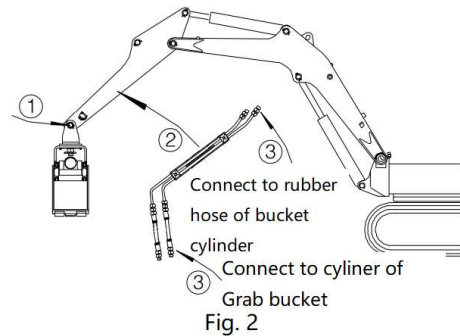

Fig. 2
- 2) Install the bucket directly on the bucket bar (as shown by arrow ① in Fig. 2).
- 3) The bucket pipeline assembly will be installed in the bucket body connection seat (as shown in Figure 2 arrow ②).
- 4) Then the connect the original bucket cylinder piston oil inlet to the piston grab cylinder oil inlet, the original bucket cylinder rod oil inlet to the grab cylinder rod oil inlet (as shown in Figure 2 arrow ③).